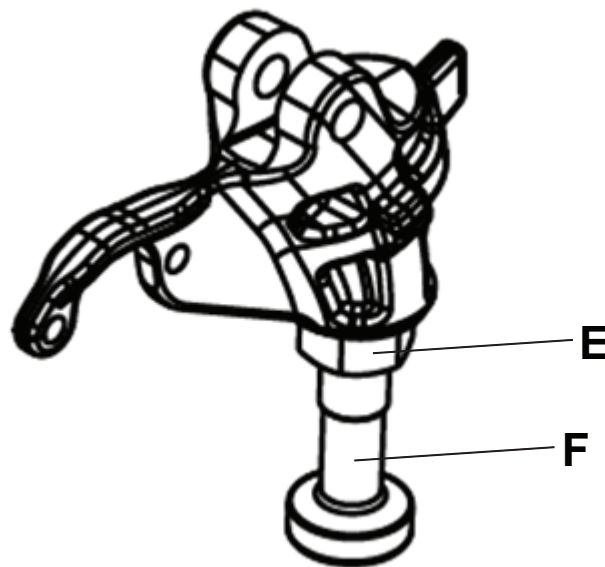

Figure 9 – Head end forging assembly
- Using a 15/16" hex wrench, loosen the locknut (E) that secures the pin (F) to the head end forging assembly (Figure 9).